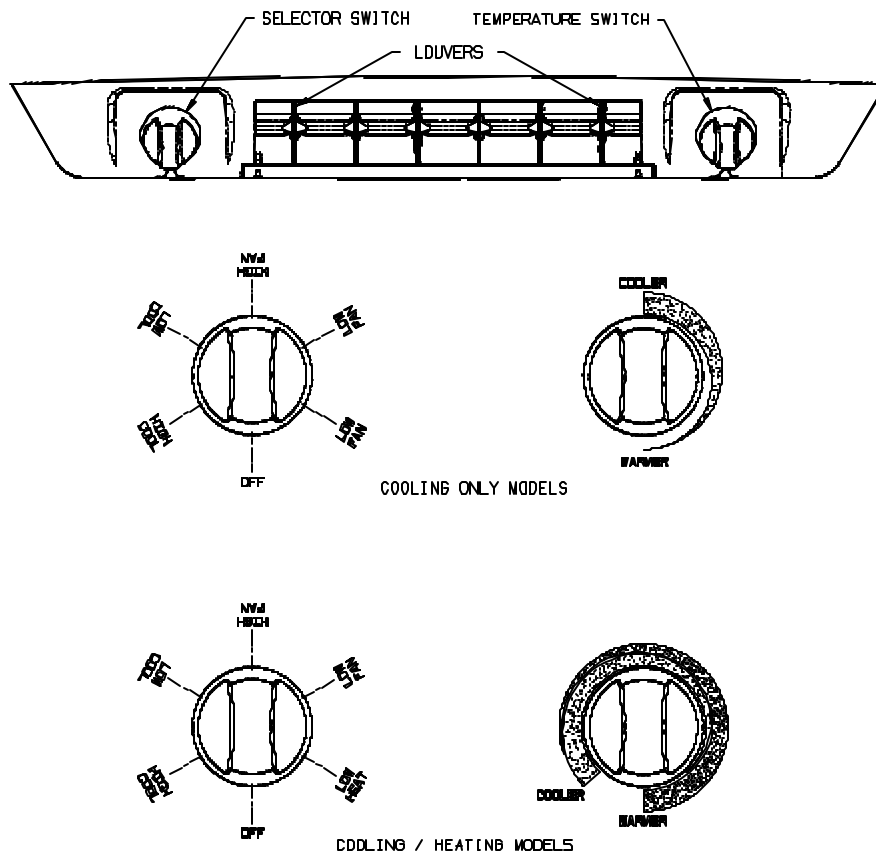

FIGURE 1
A. The Selector Switch - The selector switch determines which mode of operation the air conditioner will be in. By rotating the selector switch, the operator can obtain any system function desired. System functions vary depending upon options of both the roof top unit and ceiling assembly. Figure 1 shows selector switch location and lists all available functions by model.
For “Heat/Cool” models, the thermostat also controls the “ON” and “OFF” temperature settings of the heater assembly. See Figure 1.
I. For Cooling (Refer to Figure 1, page 3).
IV. For Heating (“Elect-A-Heat” Ceiling Assembly Model Only) Refer To Figure 1, page 3).
V. For Air Circulation Only (Refer To Figure 1, page 3).